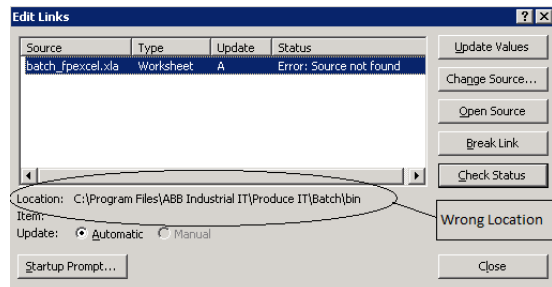

Figure 4. Path to be Changed
3. The location encircled in Figure 4 is incorrect. The path has to be updated. Click **Change Source**.